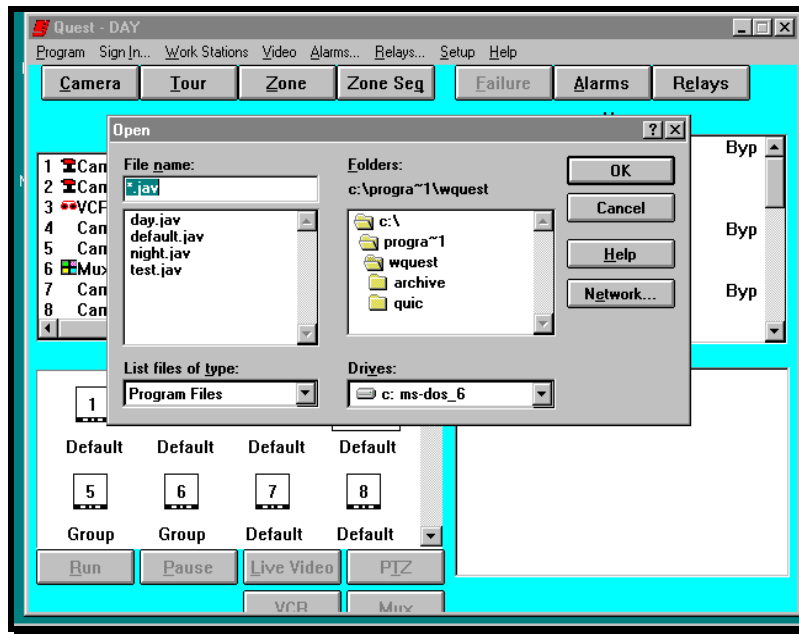

Figure 3-36. Open File Dialog Box
2. Click on **Open** (Figure 3-36) to load a previously saved program.